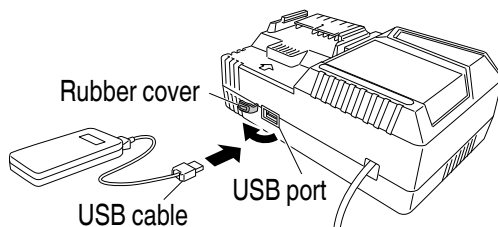

Fig. 23
- (2) Connect the USB cable. (Fig. 23)